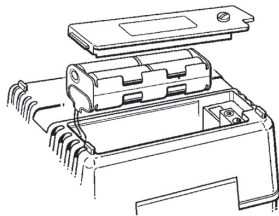

Fig. 9
1. Use a screwdriver to remove the screw from the battery compartment cover on the rear of the instrument (see Fig. 9 above). Remove the cover. Retain the screw and cover.